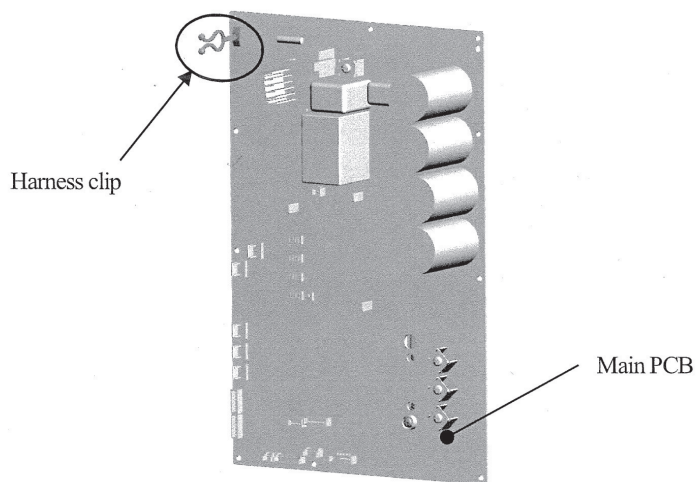

Fig.6 Install of the harness clip
- Install the attached harness clip on the new main PCB as shown in Fig.6.